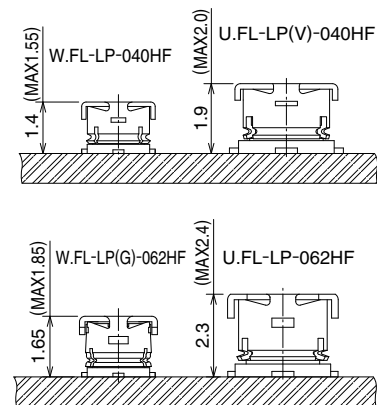

Fig.2
1. Nominal mated height of 1.4mm or 1.65mm (Max. 1.55 or 1.85mm)(Fig.2)